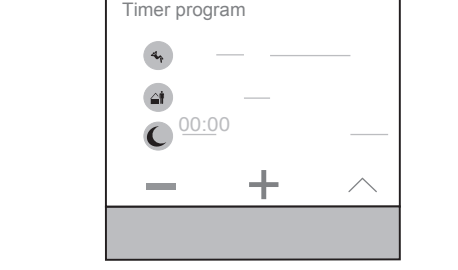

Figure 13: Setting the switching time
The display changes for setting the switching time (figure 13).
- Set the switch-on/switch-off time with - / + (figure 13).